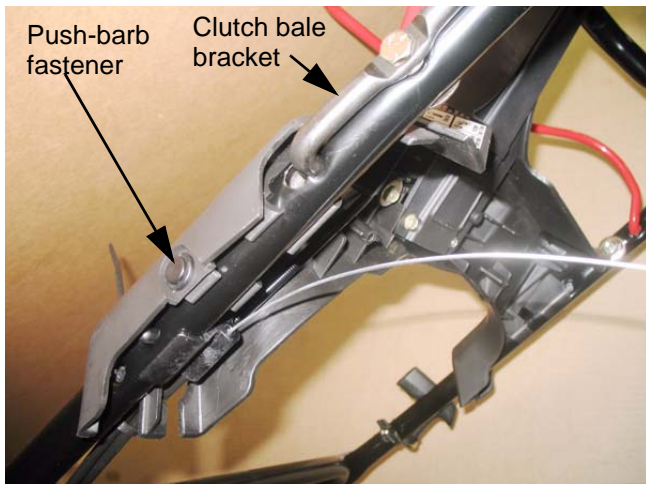

Figure 5.20
6. Remove the push-barb fasteners that hold the control panel to the upper handlebar. See Figure 5.20.